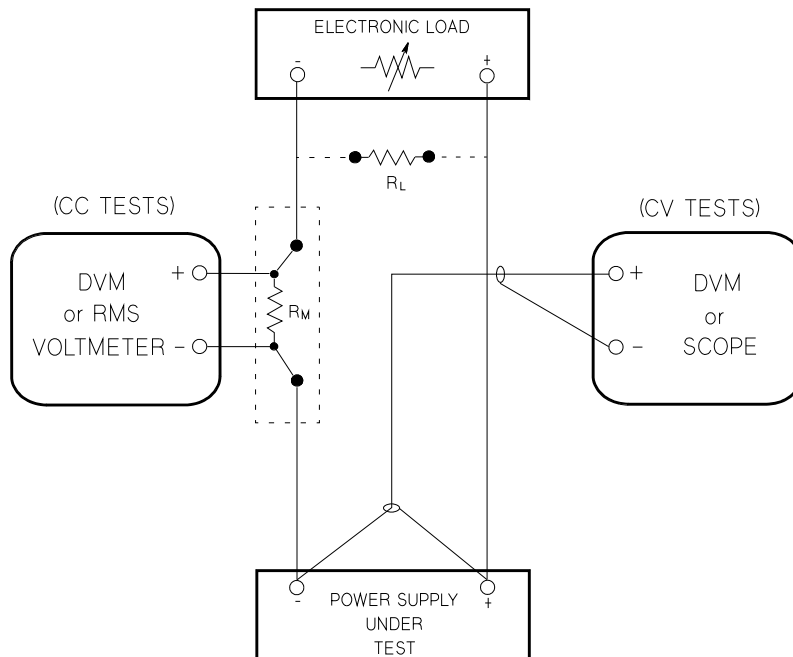

Figure 1-1 Performance verification test setup
To eliminate output current measurement error caused by the voltage drops in the leads and connections, connect the current monitoring resistor between the (–) output terminal and the load as a four-terminal device. Connect the current-monitoring leads inside the load-lead connections directly at the monitoring points on the resistor element (see R_M in Figure 1-1).
- 1 Turn off the power supply and connect a digital voltmeter between the (+) and (–) terminals of the output to be tested as shown in Figure 1-1.
- 1 Turn off the power supply and connect a digital voltmeter between the (+) and (–) terminals of the output to be tested as shown in **Figure 1-1**.
- 1 Turn off the power supply and connect the output to be tested as shown in **Figure 1-1** to an oscilloscope (AC coupled) between (+) and (–) terminals. Set the oscilloscope to AC mode and bandwidth limit to 20 MHz. Connect a resistive load (7.5 Ω) as shown in **Figure 1-1**.
- 1 Turn off the power supply and connect the output to be tested as shown in Figure 1-1 with an oscilloscope. Operate the electronic load in constant current mode.
- 1 Turn off the power supply and connect the output to be tested as shown in **Figure 1-1** with the digital voltmeter connected across the 0.01Ω current monitoring resistor (R_M).
- 1 Turn off the power supply and connect the output to be tested as shown in **Figure 1-1** with the digital voltmeter connected across the current monitoring resistor (R_M).